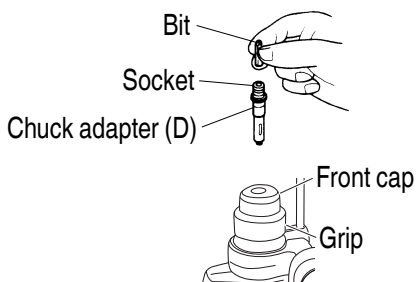

Fig. 10
4. When driving machine screws (**Fig. 10**)
5. When driving wood screws (**Fig. 10 on page 33**)